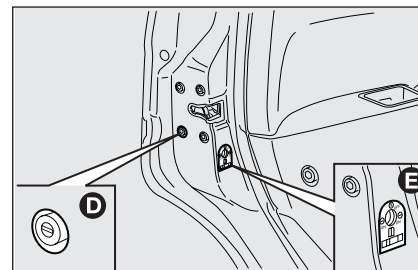

fig. 13
- operation of the emergency front and rear door lock release system **D**-fig. 13 from the outside for use the electric system is not working (e.g. flat battery);